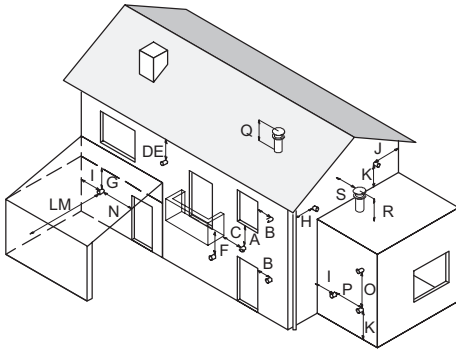

Figure 5.16
- comply with the minimum distances Figure 5.16 and any national or local regulations.